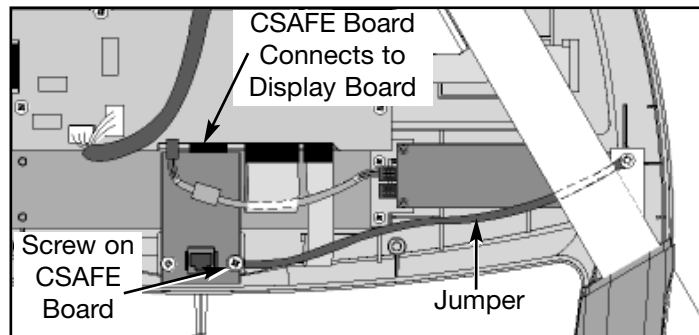

Figure 27
- B. Gently pull the CSAFE board down and out of the display board. See Figure 27.
- A. Gently push the CSAFE board into its connector on the display board. See Figure 27.